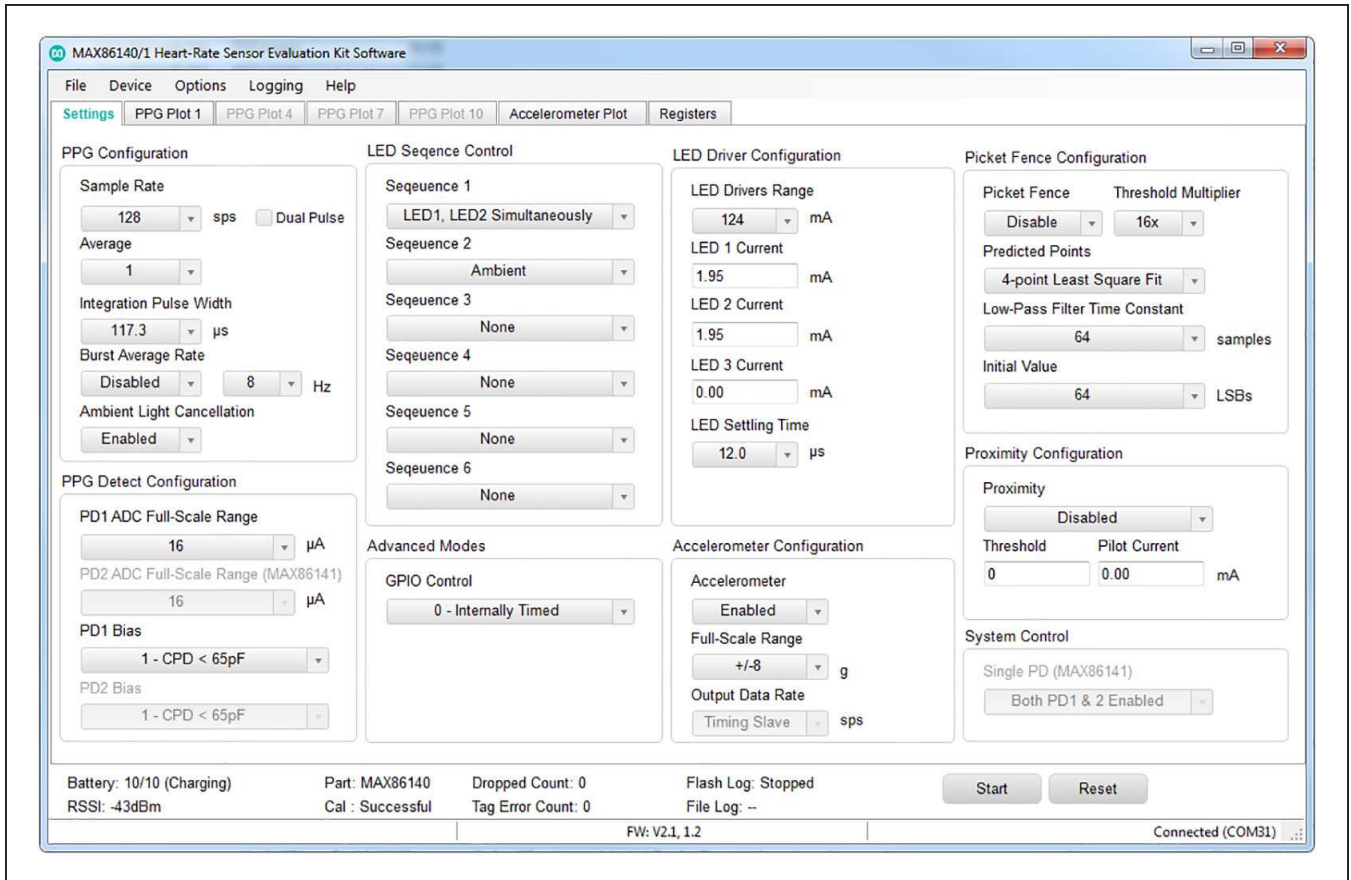

Figure 14. MAX86140 EVSYS GUI
- 10) When running, the LEDs on the Micro PCB should illuminate and the plots on the GUI should stream with data as shown in Figure 13 and Figure 14.